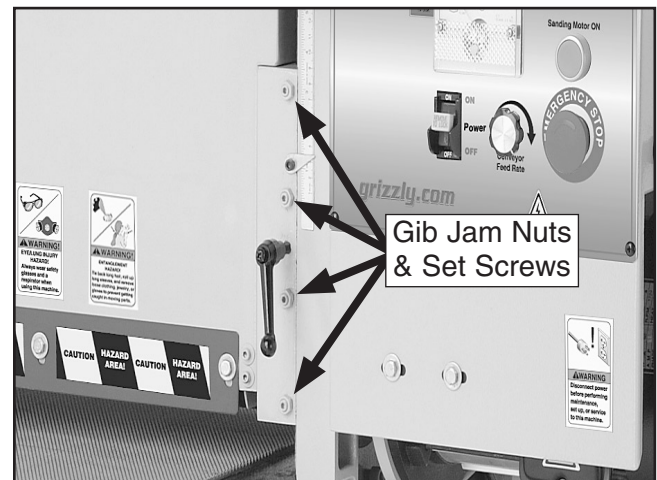

Figure 35. Gib jam nuts and set screws.
3. Loosen the four gib jam nuts along the column shown in **Figure 35**.